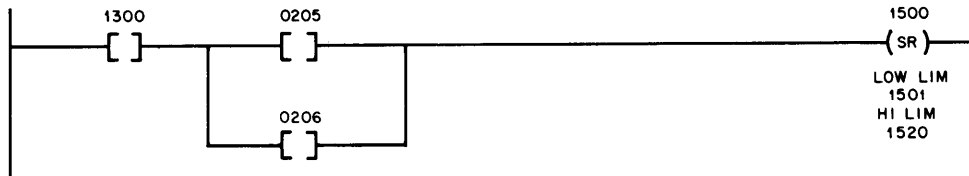

Figure 3-7 A Typical Shift Register Control Circuit
A shift circuit is entered like any output circuit, except the user must press the shift register (SR) key instead of the set output (O) key, and also must specify the I/O number limits for his shift register. Below is a step-by-step procedure and an example circuit (Figure 3-7) as viewed on the display:
3. Press the shift register (SR) key.